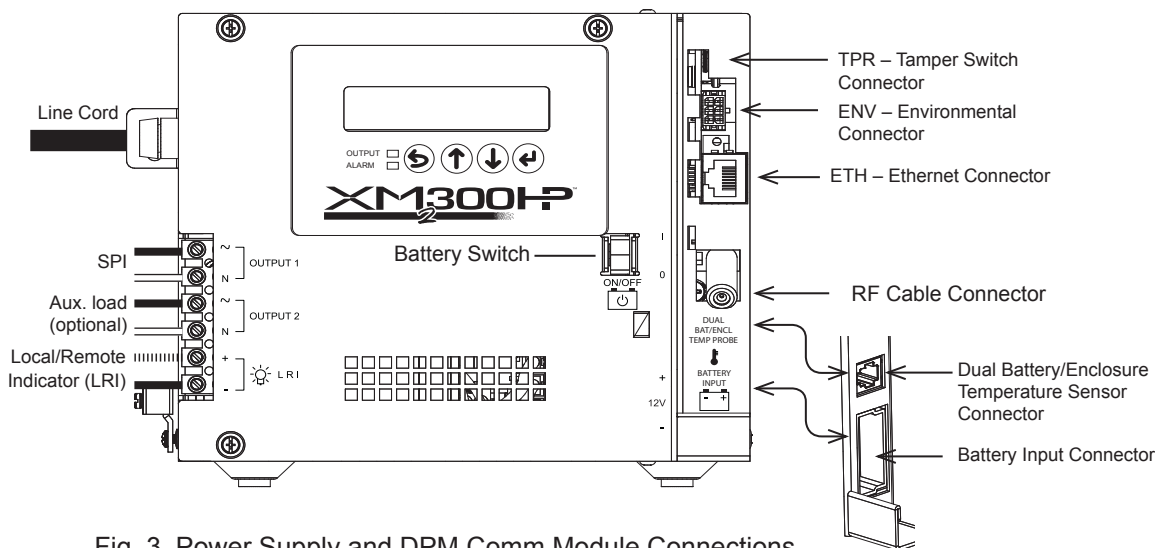

Fig. 3, Power Supply and DPM Comm Module Connections
2. Verify the battery switch is set to the OFF position on XM2-300HP (0).
4. Insert the (+) and (-) power leads for the optional Local/Remote Indicator (LRI) cable as indicated in Fig. 3. Tighten to 7.0 lbf•in / 0.8Nm.